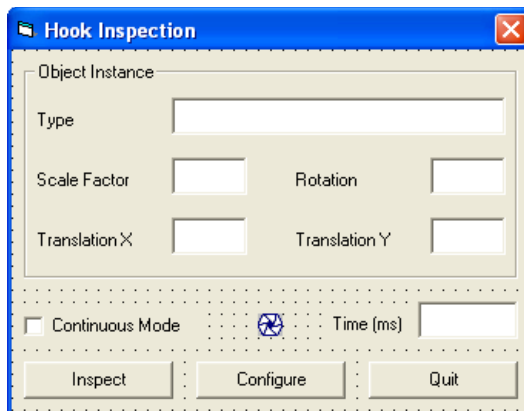

Figure 50 Visual C++ Dialog with HexSight Application Control
2. Scroll down to find **HSApplication Control**. Select it and click **OK**. The HexSight Application Control appears as a new icon in the dialog template. Place it as shown in Figure 50.